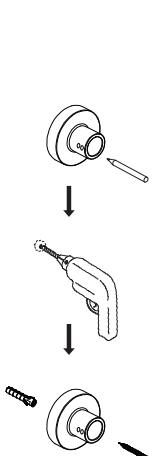

Figure 9
- d) Install the wall holder 14 on the marked position (Figure 9). Cover the thermostatic shower bar to prevent the dust. Connect the pipe connector to the wall holder and use the Allen key to secure (Figure 10).